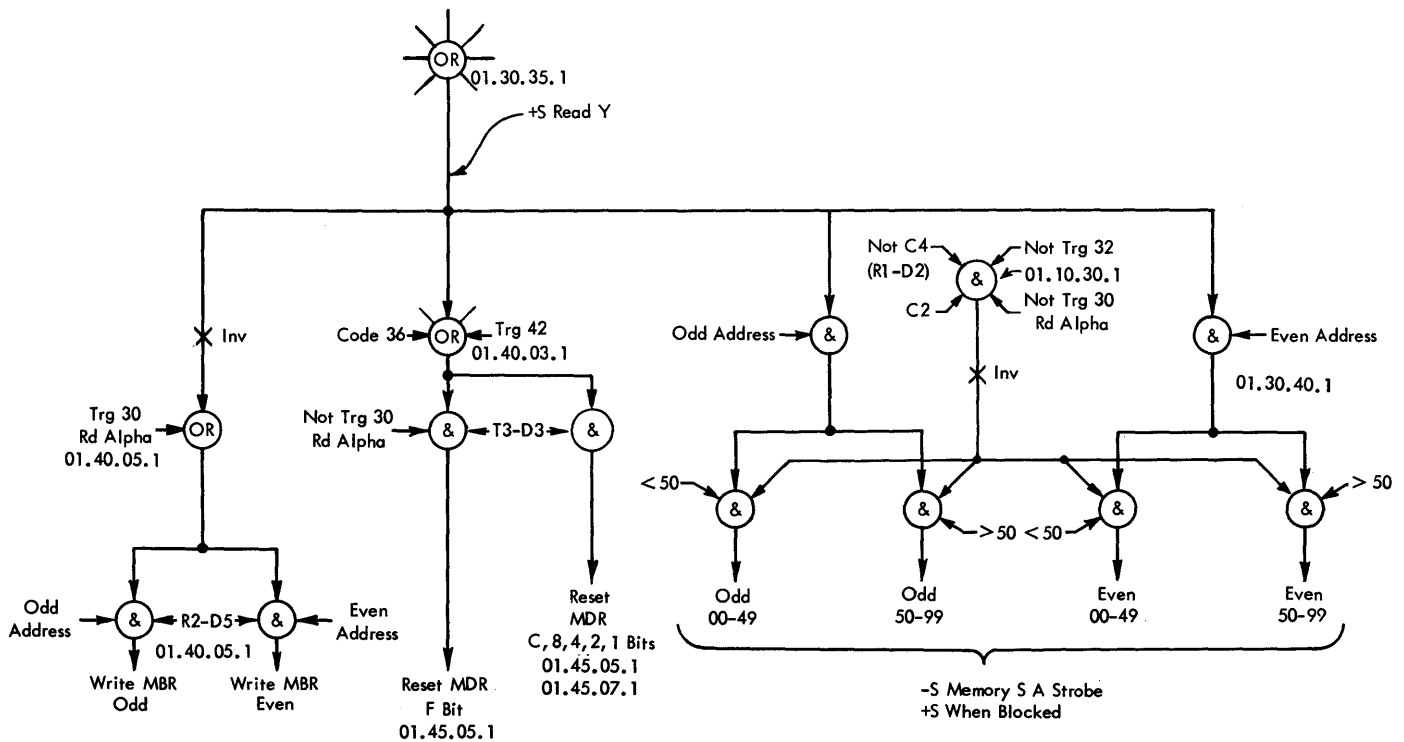

Figure 8-4. Read-Y and Block Memory Sense Amplifiers
- The digit in MDR is transferred to MBR-even or MBR-odd, depending upon whether the address in MAR is even or odd. The new digit is then written into the memory location designated by the address in MAR when the normal "write-back" into memory function is performed. The function chart shown in Figure 8-4 includes the Read-Y Point function.
The function chart shown in Figure 8-4 includes the Block Mem SA function.